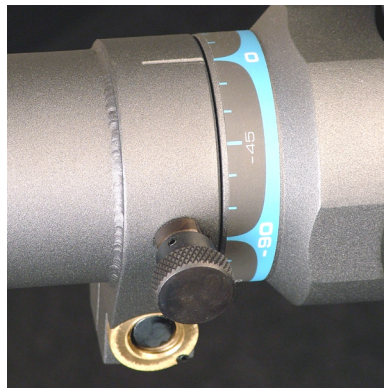

Figure 8-8. Retractable Pin Locked into the Attachment
- Step 5. Rotate the attachment back and forth until the retractable pin snaps into the hole on the attachment shaft (Figure 8-8).